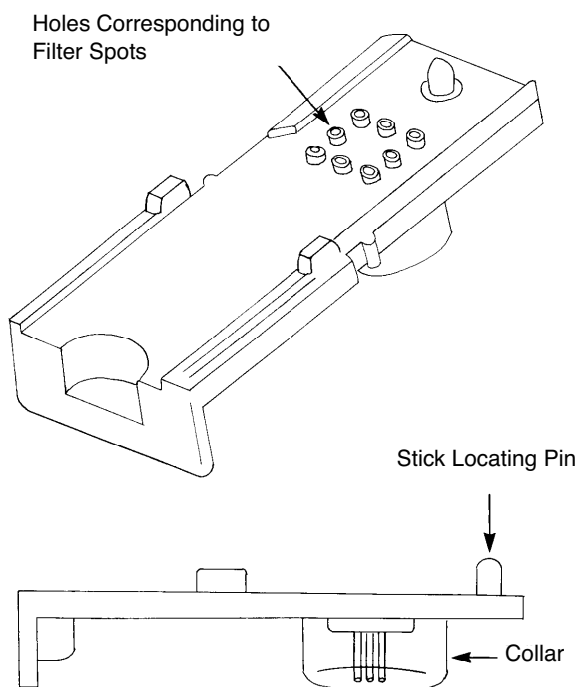

Figure 3-9: Filter Base (top and side views)
- 1) Remove the filter base from its wrapper and place it on a filter port on the Workstation. The collar should sit directly on the port (Figures 3-9 and 3-10).